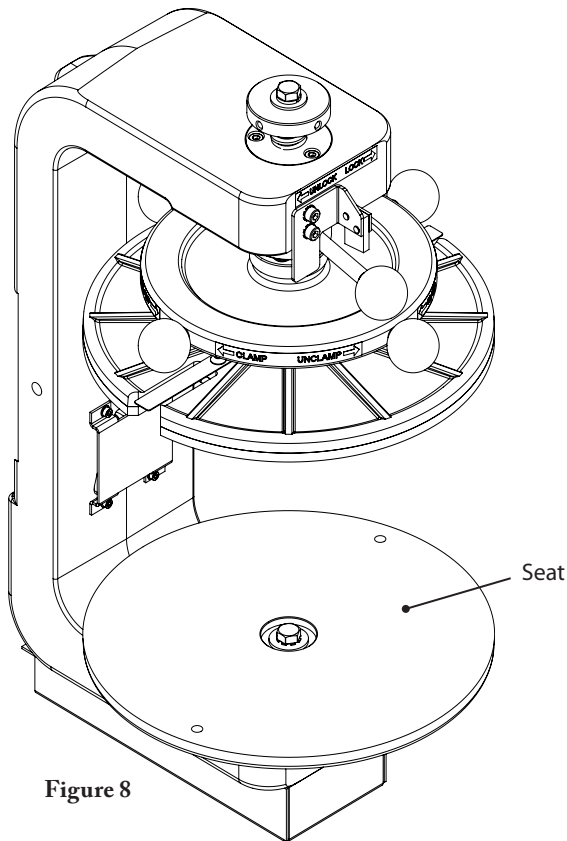

Figure 8
- 2 - Place adapter in matching shape of yoke assembly seat (Figure 8).